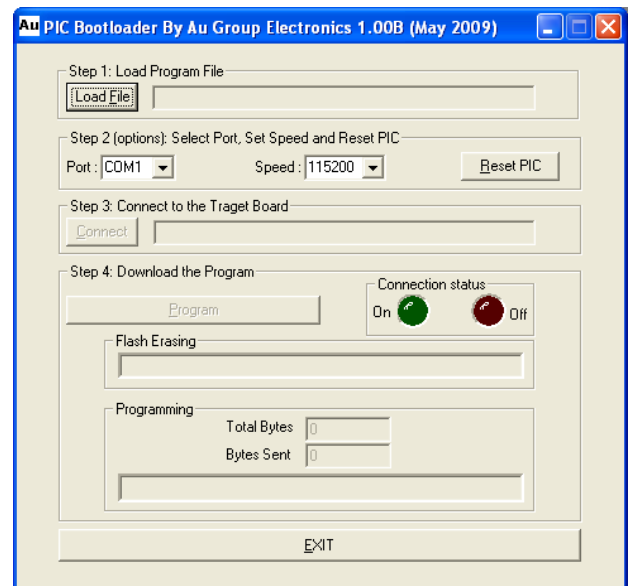

Figure C-9
9. Au PIC18 Bootloader is launched, as shown in Figure C-9